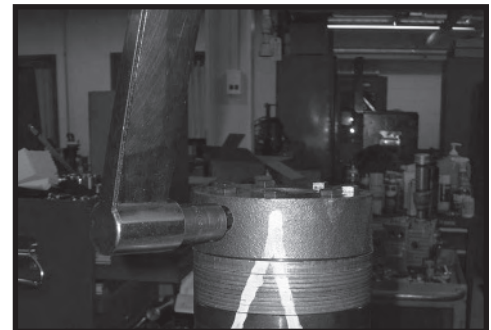

Figure 69
- 24. Torque the two shuttle valve plug assemblies (21) in end cover assembly to 9-12 ft. lbs. (12-16 N m) if cover is so equipped. SEE FIGURE 69.